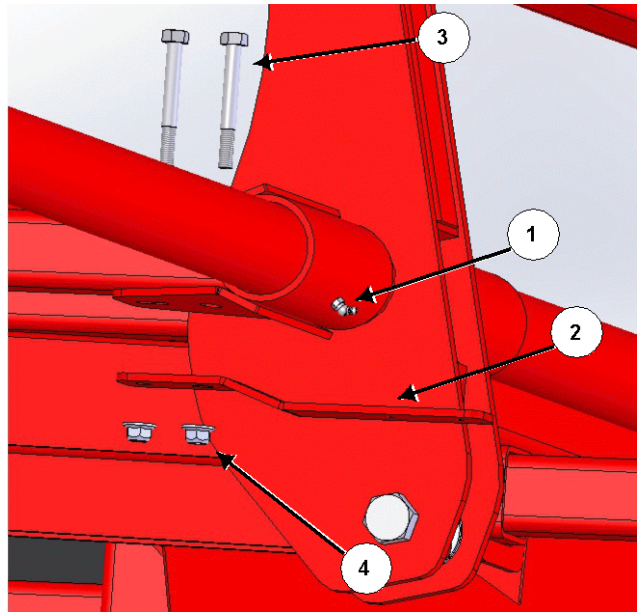

Figure 3: Install new grease zerk and camera mount plate
- a. Remove the current grease zerk and replace with $\frac{1}{4}$ -28 X 45° grease zerk (1) for added clearance, see *Figure 3*.
- c. Line up the holes on the camera mount plate (2) with the holes in the side rack pivot, see *Figure 3*.
- d. Utilizing the existing washers, place a $\frac{1}{2}$ " x 4" hex bolt (3) down through each hole in the linkage and through the mount plate (2), and fasten with a $\frac{1}{2}$ " flange lock nut (4), see *Figure 3*. Tighten the bolts.